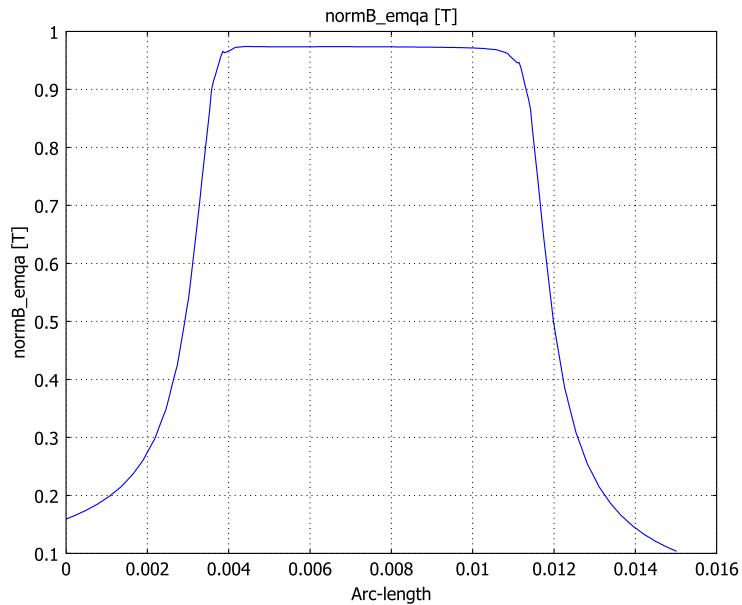

Figure 3-29: Magnetic flux density along the voice coil.
- 2 On the **Line/Extrusion** page select Boundary 29 and type normB_emqa in the **Expression** edit field. Click **OK** to generate the new plot, which should resemble that in Figure 3-29.